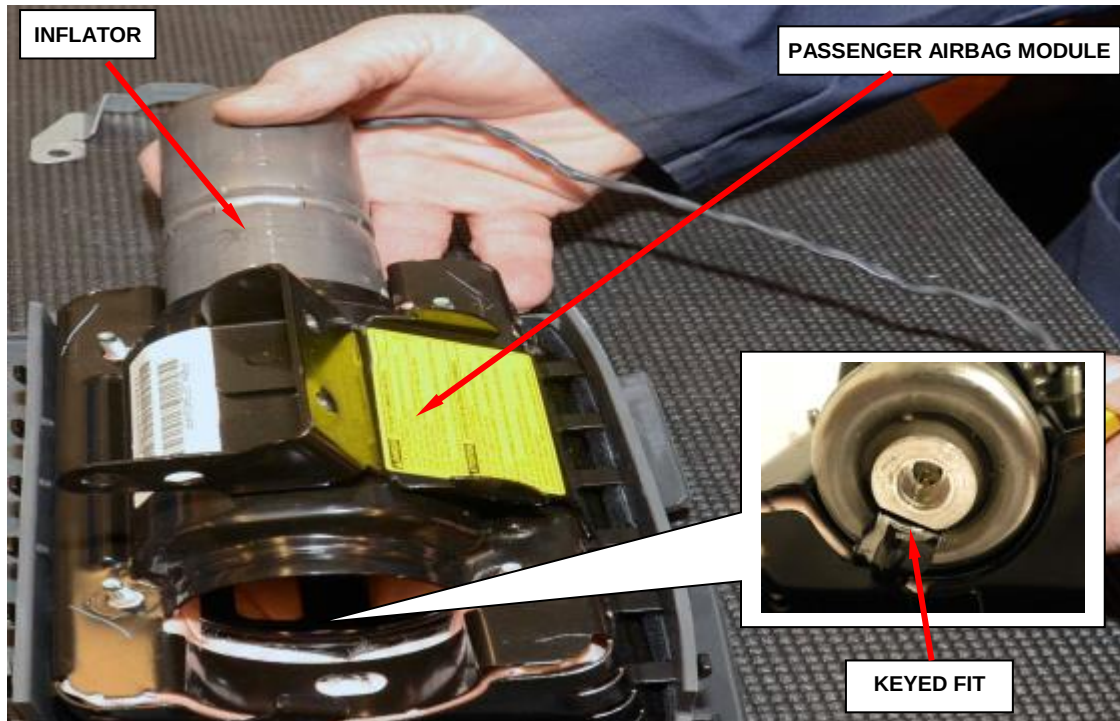

Figure 72 – Passenger Airbag Inflator to Housing
- f. Slide the inflator out of the passenger airbag module (Figure 72).
NOTE: The inflator's key **MUST** line up with the housing's key (Figure 72).
NOTE: The inflator is keyed to fit into the housing (Figure 72).